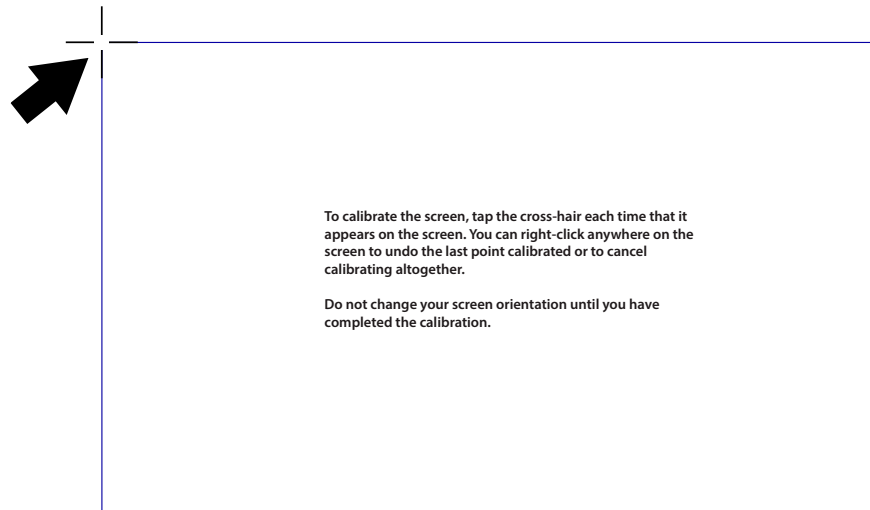

Figure 17-4 Calibrating the Touch Screen
The Calibration screen is displayed (Figure 17-4).
4. Using the stylus, follow the screen prompts and tap on the center of the cross-hairs as they appear at each corner on the screen (Figure 17-4).